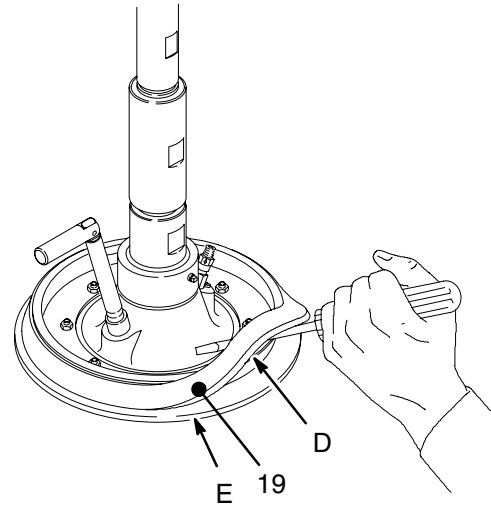
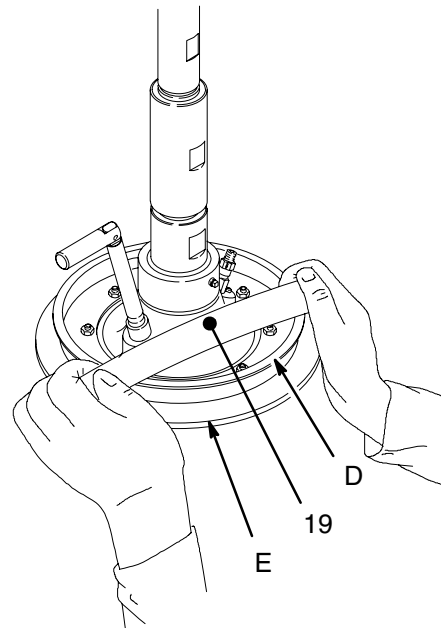
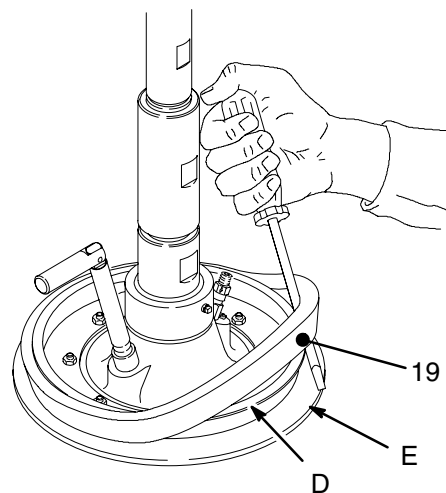

Fig. 2
Fig. 3
Fig. 4
- a. **To use the wiper plate with tapered pails,** the large spacer (19) must be removed. *Working from the bottom*, use a screwdriver to pry the spacer loose. Work it upward so it is completely above the flange (D) of the wiper plate. See Fig. 2. Next, by hand, angle the spacer and work it off the plate, pulling it down over the flange and bottom wipers (E). See Fig. 3. Save the spacer, as it is required for other applications.
- b. **To reinstall the spacer for use with a straight sided pail,** first make sure the large diameter of the spacer (19) is facing **down**. Work the spacer up over the wiper plate by hand, so it is completely above the flange (D) of the wiper plate. See Fig. 3. Then, *working from the top*, use a screwdriver to position the spacer between the flange (D) and the wipers (E). See Fig. 4.
4. Connect a 610 mm (24 in.), 1/4 in. (6.3 mm) OD nylon tube (F) with a 1/8 npt(f) fitting (H) from the ram's air assist tube fitting (G) to the air assist check valve (21) on the wiper plate.